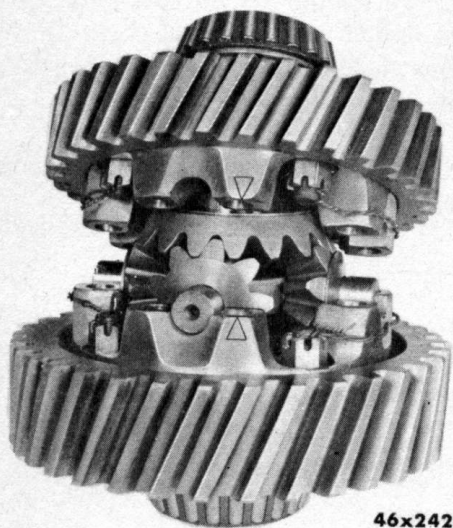
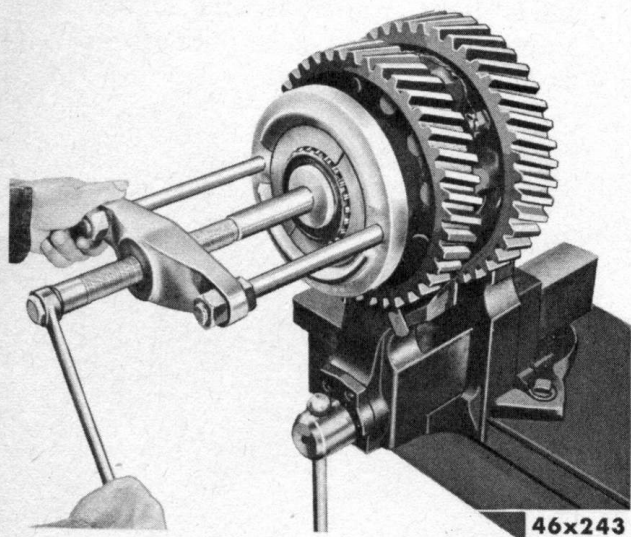

Fig. 75—Differential Case Mating Marks
Fig. 76—Removing Cross Shaft Bearings, Tool DD-914
- (1) If original identification marks are not clear, center punch case halves for correct alignment when reassembling (Fig. 75).
- (2) Remove lock wire, long bolts and separate case halves.
- (3) Remove spider, pinions, side gears and thrust washers.
- (4) Remove short bolts and separate gears from case.
- (5) If necessary, remove cross shaft bearings, as shown in Figure 76.